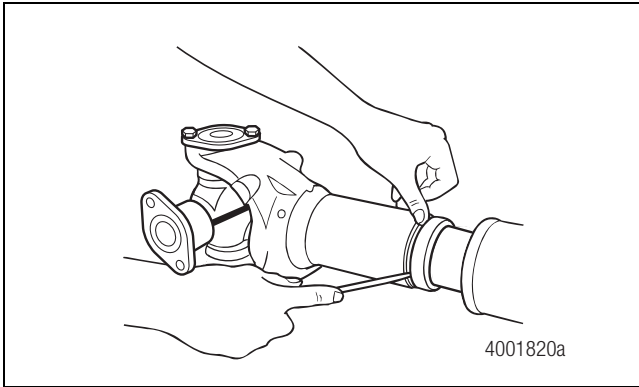

Figure 5.3
1. Use a screwdriver to pry the seal out of the groove in the slip yoke. Figure 5.3.